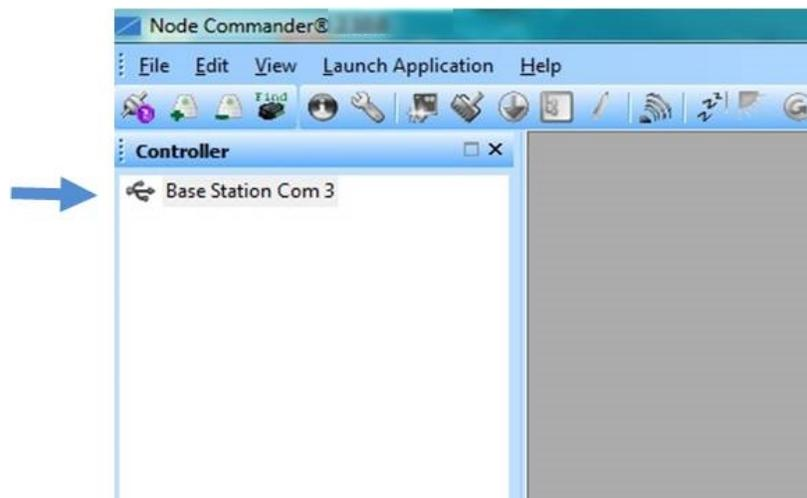

Figure 7 - USB Gateway Communication
3. The gateway should appear in the Controller window automatically with a communication port assignment (Figure 7 - USB Gateway Communication). If it is not automatically discovered, verify the port is active on the host computer, and then remove and re-insert the USB connector.